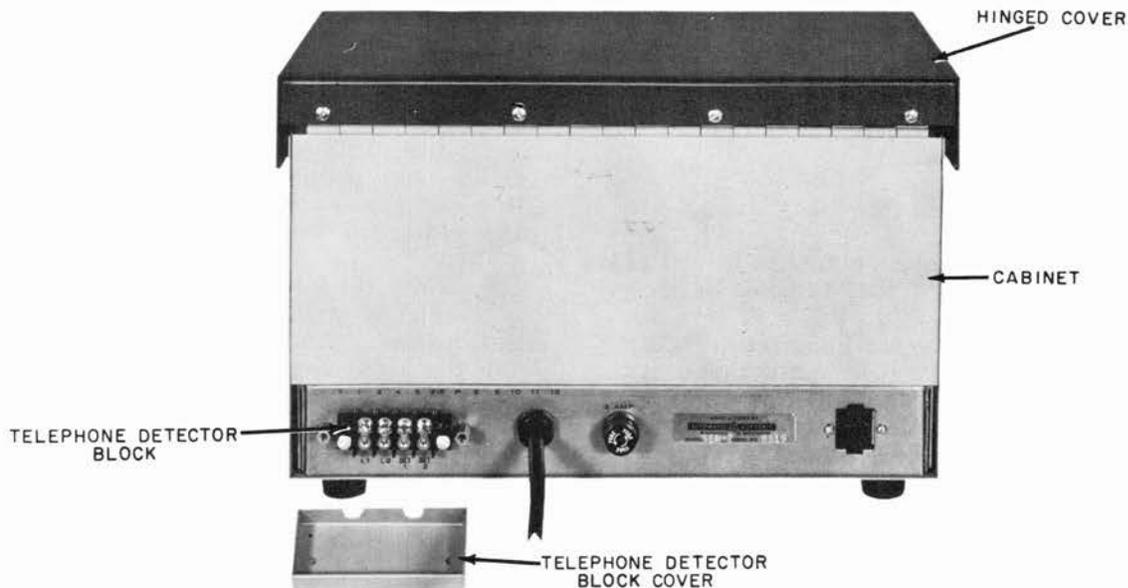

Figure 6. ELECTRONIC SENTRY Model 2 Warning Unit (Rear View, Telephone and Detector Terminal Block Cover Removed).
2.11 Remove the cover of the telephone-detector block TB301 (see Figure 6). Connect the telephone line to the terminals marked L1 and L2. Connect the leads from the detection device to the terminals marked DET. 1 and DET. 2. Replace the cover.